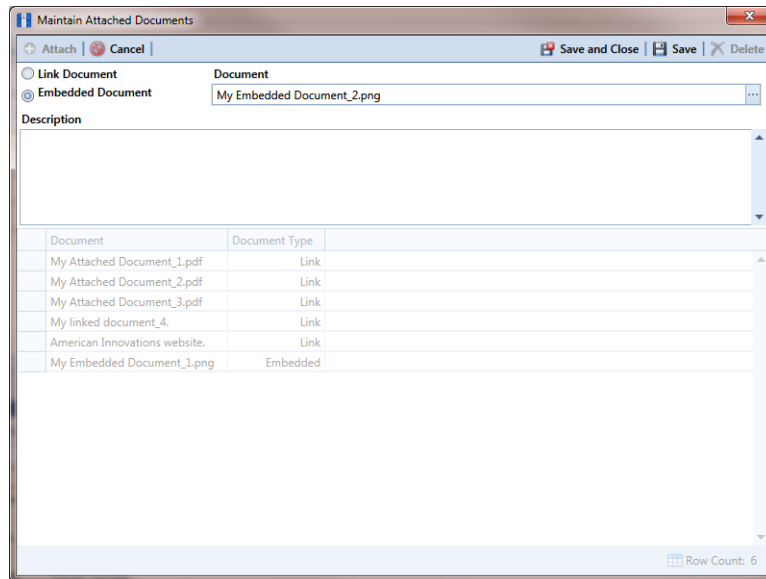

Figure 7-136. Maintain Attached Documents
- 9 If you selected *Embedded Document* in **step 6** (Figure 7-136), complete the following steps: